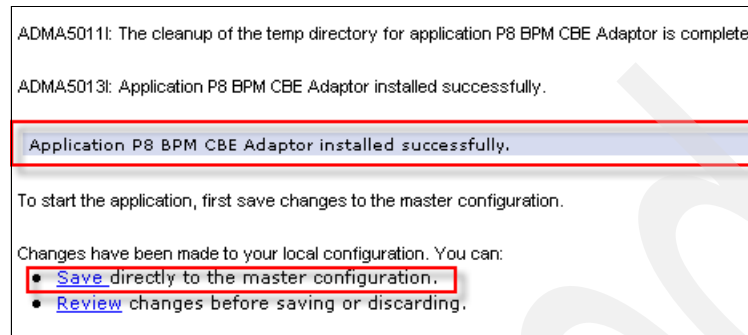

Figure 7-24 FileNet P8 BPM Common Base Event Adapter Installation Result
5. When the Common Base Event Adapter installation is successful, you see the message Application P8 BPM installed successfully (Figure 7-24). Click the **Save** directly to the master configuration link.